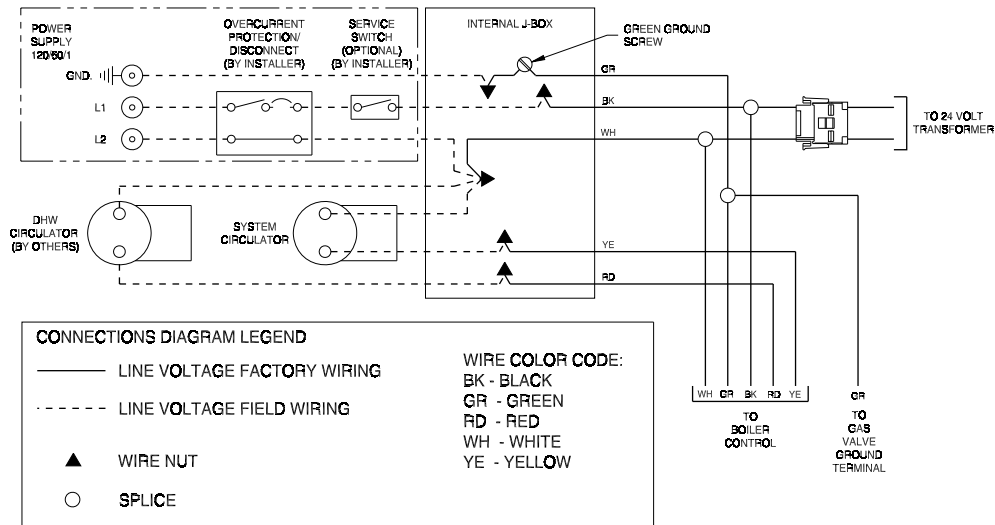

Figure 9.1: Line Voltage Connections
1. Line Voltage (120 VAC) Field Connections – See Figure 9.1 for line voltage connections. Provide a dedicated circuit for the boiler of 15A or greater. A service switch is recommended and is required by many local codes. Locate this switch in accordance with local codes or, in the absence of any, in a location where it can be safely accessed in an emergency involving the boiler. All 120 VAC connections to the boiler itself are made inside the junction box in the boiler vestibule. 120 VAC connections are: